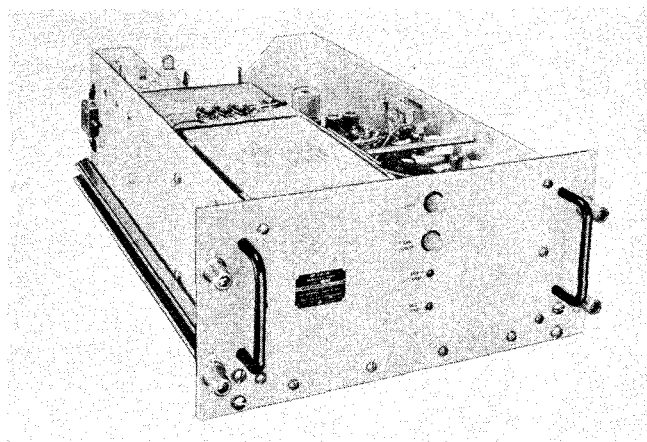

Figure 1-13. Radio Modulator MD-230/SRT,
(1) RADIO MODULATOR MD-230/SRT (HIGH LEVEL RADIO MODULATOR, HLRM). (See figure 1-13.)—This unit is commonly called the high level radio modulator (HLRM) to distinguish it from the radio modulator in the 100-watt transmitter group. It modulates the radio frequency amplifier during phone service at the nominal 500-watt power level. A push-pull high level audio amplifier consisting of two 4D21 tetrodes operating in class AB₂ provides plate modulation for the final radio frequency amplifier stage. Six watts of audio power to drive the high level radio modulator are supplied from the low level radio modulator.